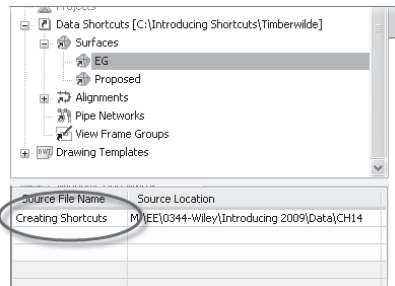

Figure 14.18
9. In Prospector, select the Data Shortcuts → Surfaces → EG branch and note that the Source File Name is shown as Creating Shortcuts (see Figure 14.18).